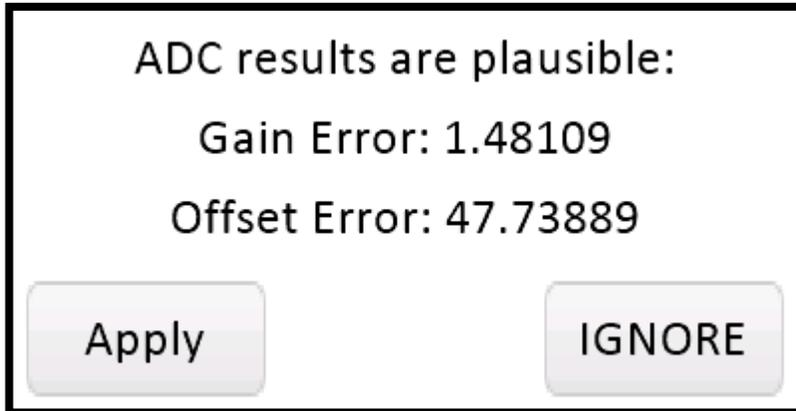

Figure 28. MAXREFDES183# Calibrate ADC voltage result.
38. Next, the MAXREFDES183# will show the results (**Figure 28**) from calibrating for the ADC in the MAX22000. The procedure is identical to that for the DAC to generate gain and offset error data.